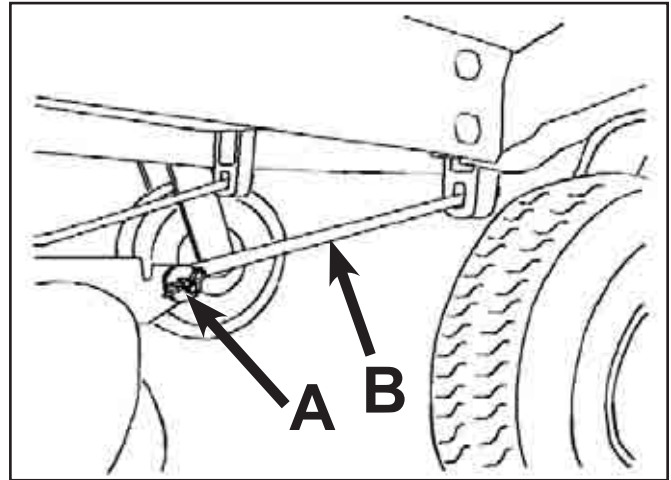

Fig A6 008 fig. 46 G000547
4. Remove the hairpin cotter and clevis pin from the front support rod on each side of the mower (Fig. A6 008).
5. Remove the hairpin cotter and washer from the adjusting rod (Fig. A6 007) on each side of the mower.
6. Remove the hairpin cotter and washer at the mower leveling brackets (Fig. A6 007) on each side of the mower. Note which hole the leveling bracket is mounted in for future installation. Slide the brackets off of the mounting pin.